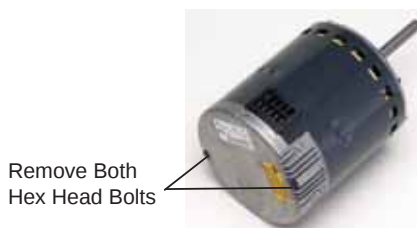

Figure 10. Remove the Hex Head Bolts
- 4 - Remove the two hex head bolts securing the motor control module to the motor. See **Figure 10**.
- 3 - Mount new motor control module to motor using two hex head bolts removed in **Figure 10**. Torque bolts to 22 inch pounds or 1/16th clock wise turn.